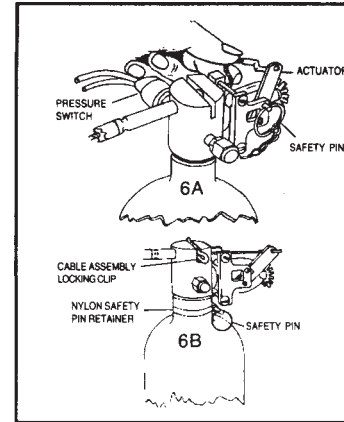

Figure 6
**Step 3** Connecting cable assembly to cylinder (**Figure 6 or 7**)
- c. Using care, remove the factory installed actuator lever safety pin from the cylinder. Store safety pin in the nylon retainer provided on the cylinder neck (**Figure 6 or 7**).